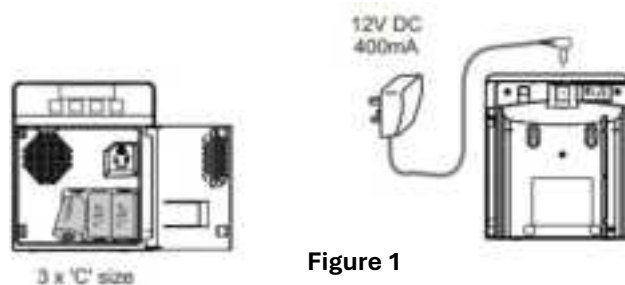

Figure 1
- Open the front cover of the receiver (see Figure 1). Please put three (3) high-quality alkaline batteries into the receiver (not included).